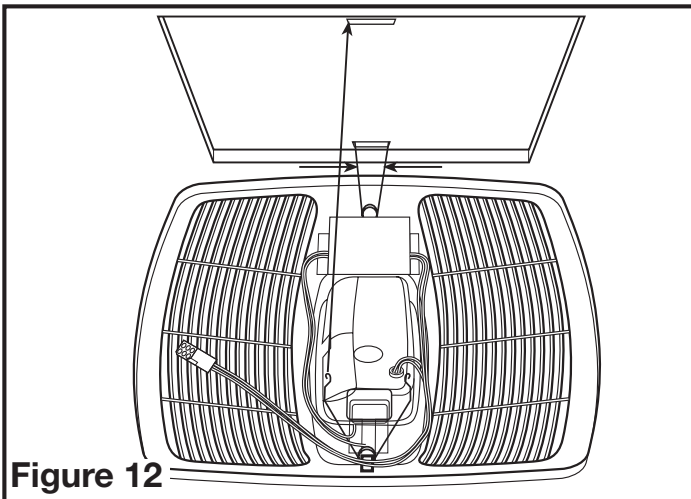

Figure 12
NOTE: If the mounting flange is installed on the fan housing, remove the two screws that connect the ceiling mounting flange to the housing and set aside (Figure 12).
5. Install the grill by squeezing the springs together and installing it up into the slot furthest from the wire compartment on the fans housing. Attach the 6 pin quick connect from the grill to the 6 pin connector on the top of the wire cover. The cord will only fit one way into the receptacle. Install the other spring and push the grill up into position. (Figure 12).